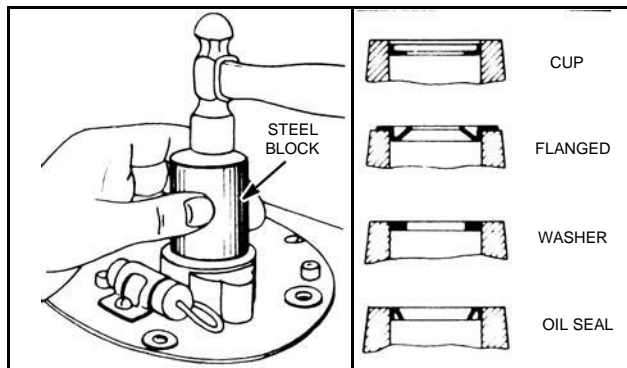

Fig. 911 - BEARING OIL RETAINERS
The bearing oil retainer rings consist of four (4) types: (1) Flange Type, (2) Cup Type, (3) Washer Type, and (4) Oil Seal, Fig. 911.
The oil seal is assembled with the sharp edge of the leather or rubber down toward the inside of the engine. Rub leather oil seal with "Lubriplate" or equivalent before assembling. Place the retainer ring in the counterbore and either press or drive it into place. Tool #19156 (NLA) can be used where the retainer ring is driven flush, Fig. 911. There should be an air gap of .010" between the cup type and the flange type and the crankshaft journal. If not, file the retainer ring. Do not file the washer type.